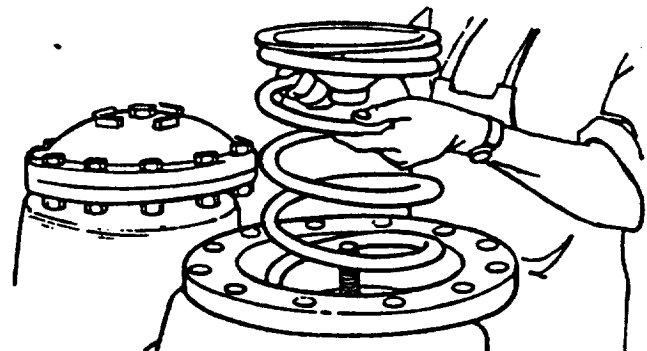

**FIGURE 11
- f. Gradually loosen top rod nuts to allow spring to relax (Fig. 11).